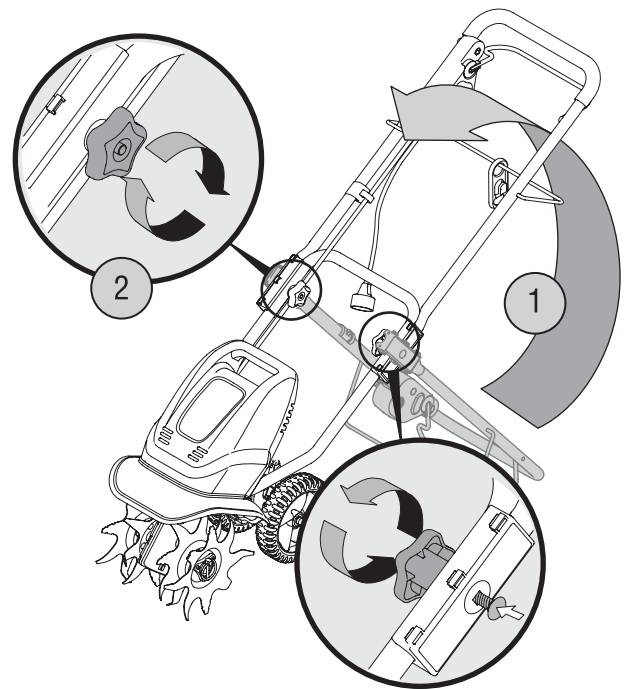

Fig. 2
2. Gently lift and pivot the upper handle into the operating position (Fig. 2, no. 1).
3. Secure the upper handle and lower handle by tightening the hand knobs (Fig. 2, no. 2). Each carriage bolt must be seated properly into the square hole found in the plastic connector.